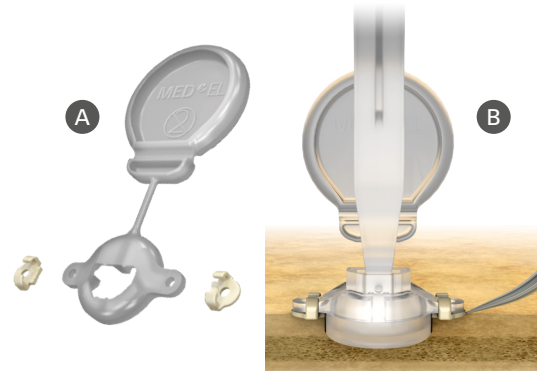

Figure 15: Attaching the BCI 602 Lifts (1mm) to the FP-Sizer (A)
If it is anatomically not possible to drill a bone bed of 4.5 mm depth, use the BCI 602 Lifts (1mm) to reduce the drilling depth to 3.5 mm. Attach the BCI 602 Lifts (1mm) to the fixation wings of the FP-Sizer (see Figure 15 (A)) and check the flat contact between the BCI 602 Lifts (1mm) and the bone as shown in Figure 15 (B).